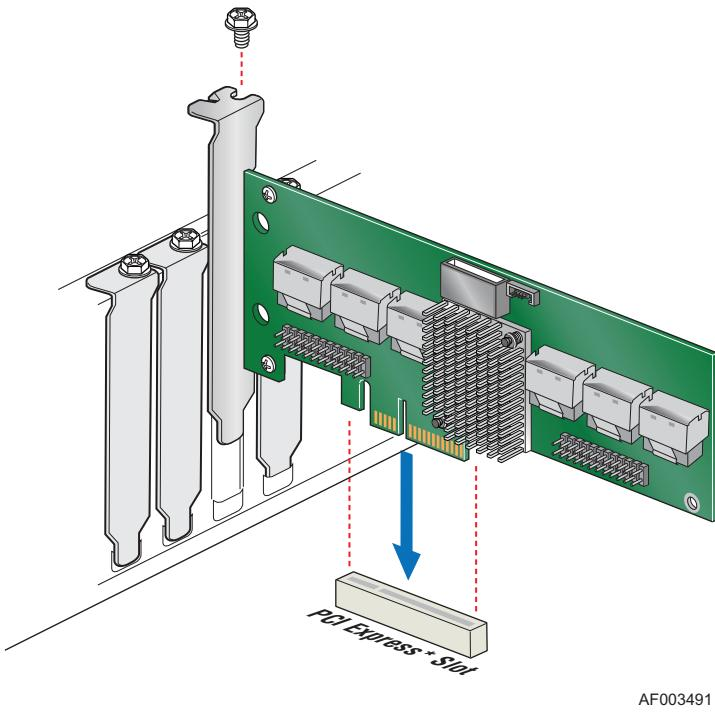

Figure 2. Installing Intel® RAID Expander Card RES2SV240
4. Install the expander card into an available server system x4, x8 or x16 PCI-Express* slot (see Figure 2). To locate an appropriate slot and for instructions on installing an add-in card, see your server system documentation.